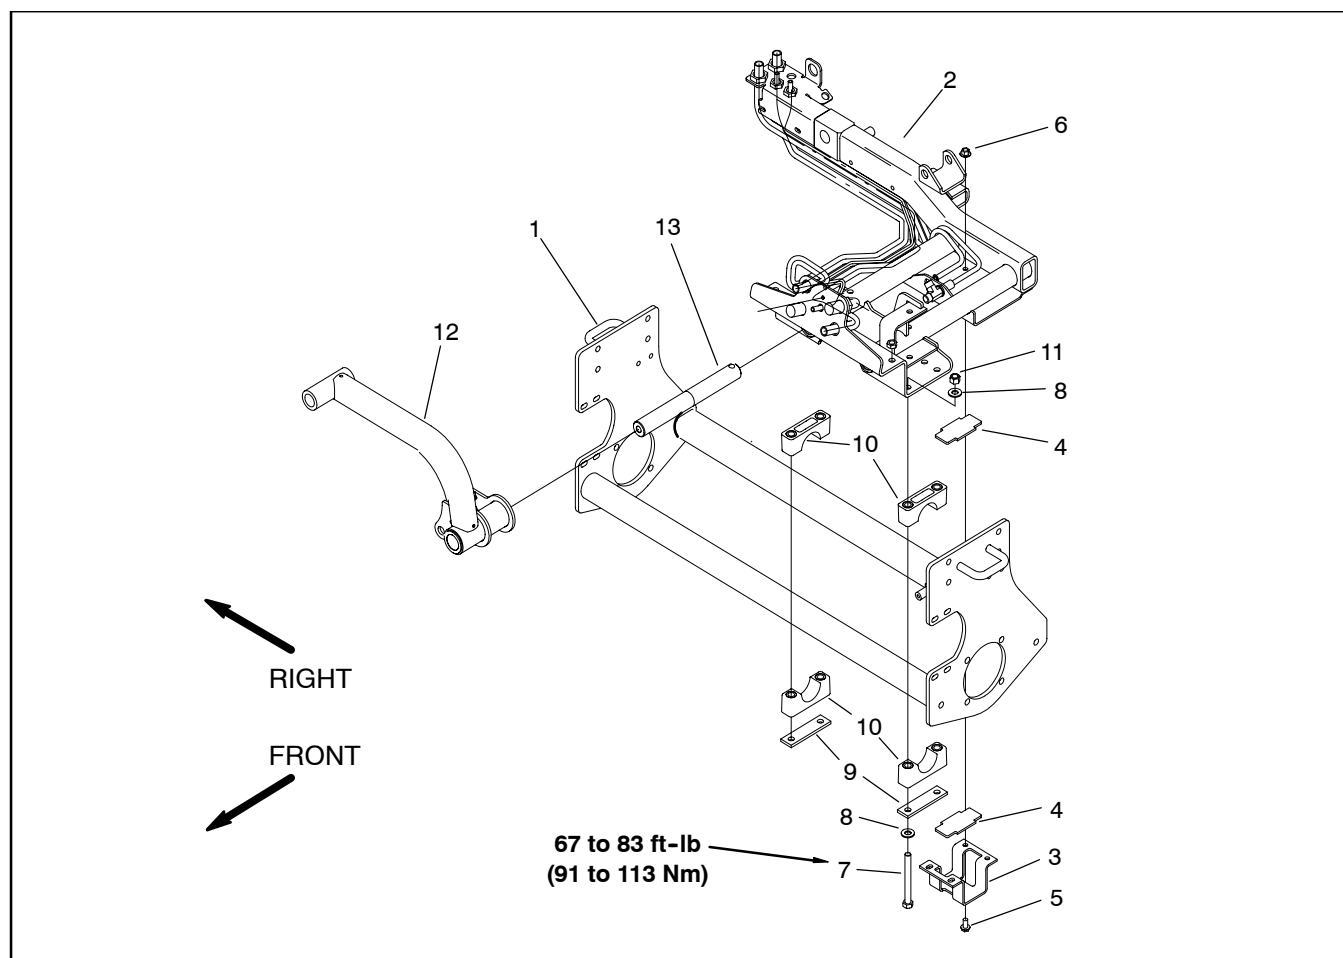

Figure 21
1. Assemble sidewinder carrier using Figures 21 as guide.